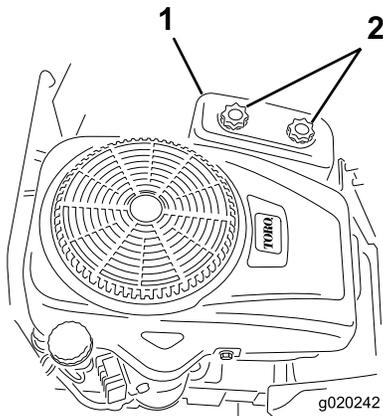

Figure 31
4. Remove the air-cleaner cover by unscrewing the 2 knobs (Figure 31).
3. Install the air-cleaner cover, and tighten the 2 knobs (Figure 31).